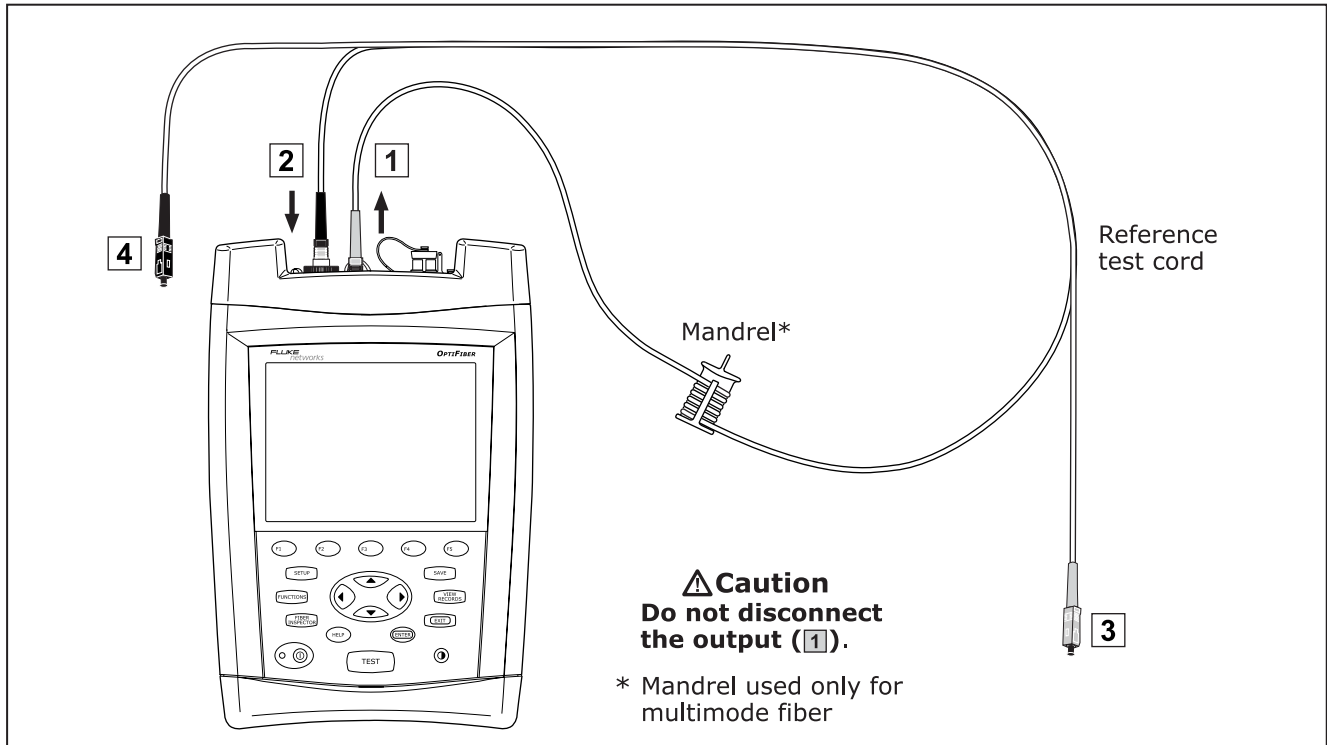

Figure 28. Loopback Mode Reference Connections
- 6 Press **(FUNCTIONS)**; then select **Set Loss/Length Reference**. Connect the reference test cords as shown on the screen and in Figure 28; then press **(ENTER)**.